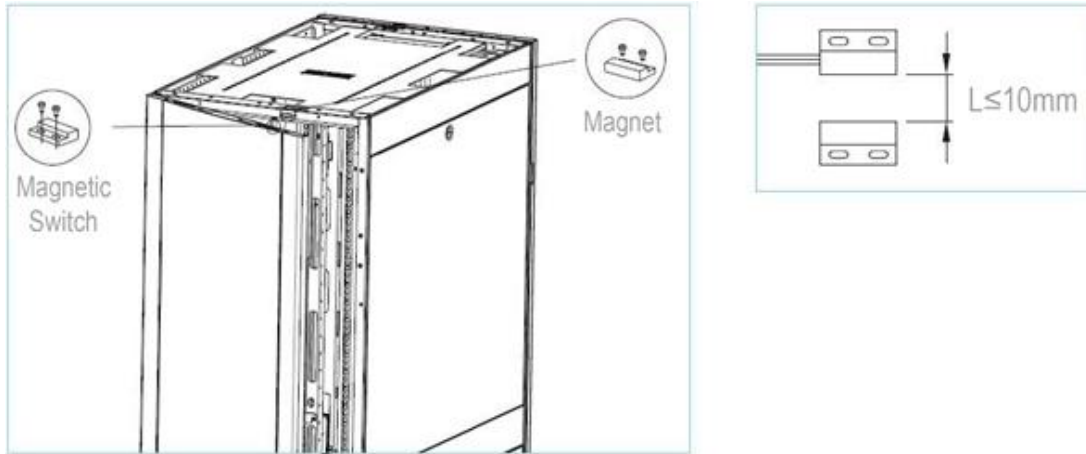

Figure 2: Magnetic Switch Placement
1. Attach the ACF10 or ACF11 magnet to the top corner of the cabinet using screws, or optional bracket hardware (if applicable). See Figure 2.
2. Attach the ACF10 or ACF11 magnetic switch to the top corner of the cabinet door opposite the magnet using screws, or bracket hardware (if applicable). See Figure 2. Route and secure the cable to the cabinet door using adhesive backed mount and cable ties as needed.